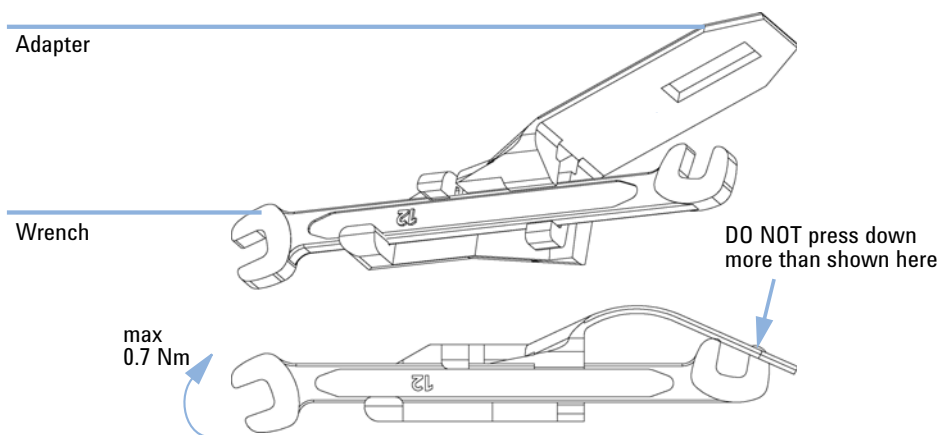

Figure 46 Wrench plus Torque Adapter
- 9** Insert the flow cell capillaries and tighten them finger-tight. Use the wrench and torque adapter as described on Figure 46 on page 184 and tighten the fittings alternately.
With the instrument accessory kit comes a 4-mm wrench and with the Sealing Kit a special adapter. Both together work as a torque wrench with pre-defined torque (maximum allowed torque for the cell fittings is 0.7 Nm). It can be used to tight the capillary fittings at the flow cell body. The wrench has to be plugged into the adapter as shown in Figure 46 on page 184.